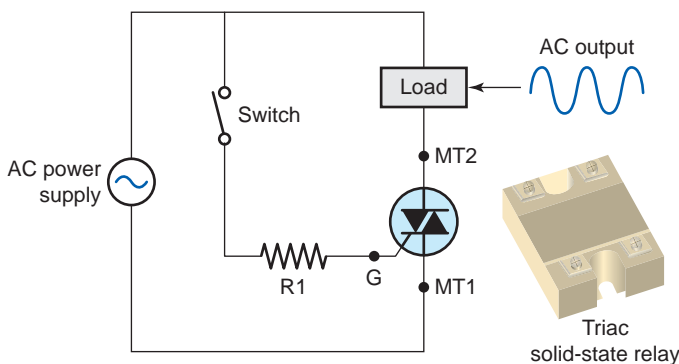

Figure 9-33 Triac switching circuit.
The triac may be triggered into conduction by either a positive or a negative voltage applied to its gate electrode. Once triggered, the device continues to conduct until the current through it drops below a certain threshold value, such as at the end of a half-cycle of the alternating current (AC) mains power. This makes the triac very convenient for switching AC loads. The triac is an almost ideal component for controlling AC power loads with a high (on/off) duty cycle. Using a triac eliminates completely the contact sticking, bounce, and wear associated with conventional electro-mechanical relays. The schematic of a triac switching circuit is shown in Figure 9-33. Maximum output is obtained by utilizing both half-waves of the AC input voltage. The operation of the circuit can be summarized as follows: